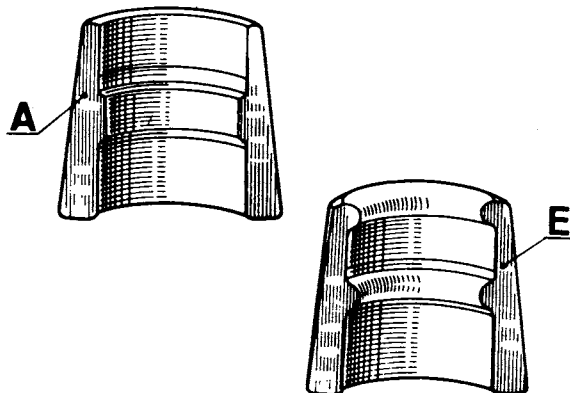

FIGURE 14. VALVE KEEPERS
3. Compress valve springs. Install the keepers (Figure 14).